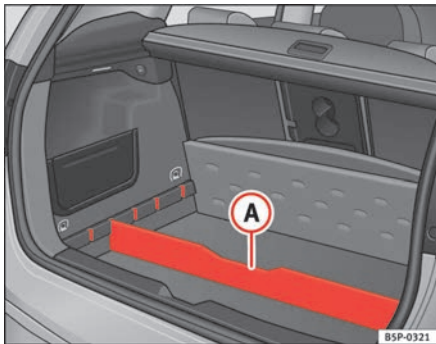

Fig. 107 Variable floor boot stowage compartment
- Fit the separator **A** ⇒ fig. 107, into the side grooves depending on the size of the objects to be transported. The onboard tool kit and the spare wheel are located underneath the luggage compartment.